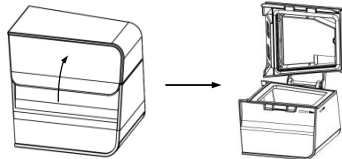
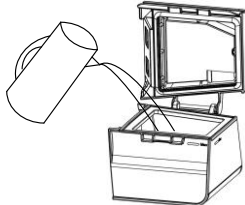

Fig. 12-2
Fig. 12-3
(1) Remove the water chamber, open the cap, as shown in Fig. 12-2, and fill the water chamber with approximately 360 mL of water, as shown in Fig. 12-3. Make sure that the water does not exceed the maximum water level line.